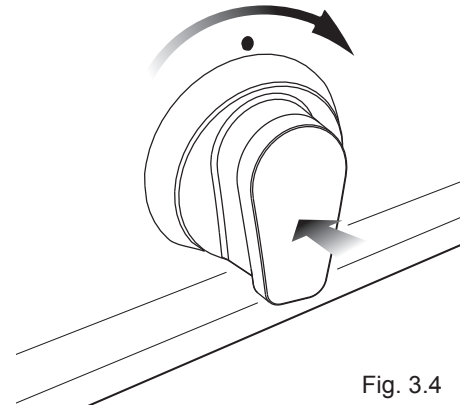

Fig. 3.4
2) Press the oven control knob right down and turn clockwise (fig. 3.4) to the **Broil** position.